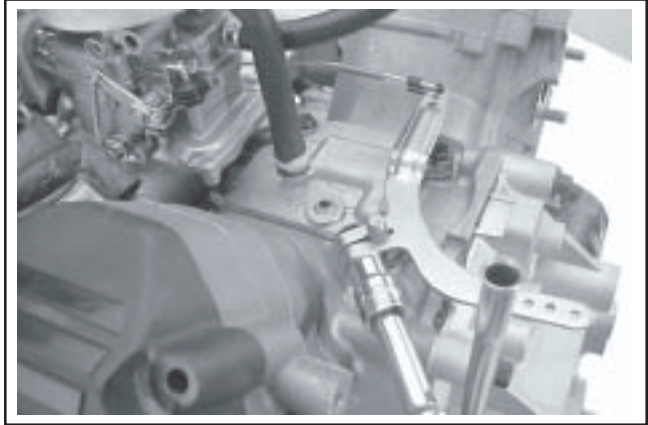

Figure 9-21. Loosening Governor Lever Mounting Nut.
1. Loosen the hex. flange nut of the governor lever mounting screw. See Figure 9-21. Leave the throttle linkage and spring connected to the lever. Lift the governor lever off of the governor shaft and lay the assembly on top of the crankcase, to be removed with the carburetor.